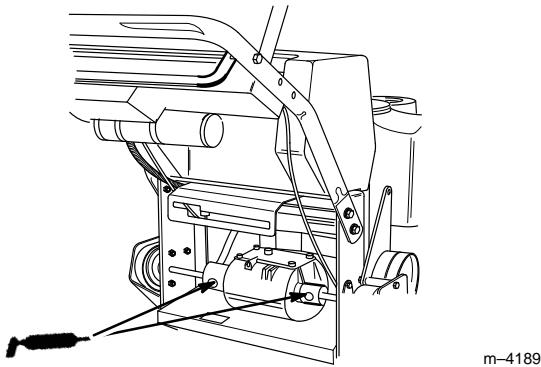

Figure 26
2. Lubricate the transmission couplers (Fig. 26).